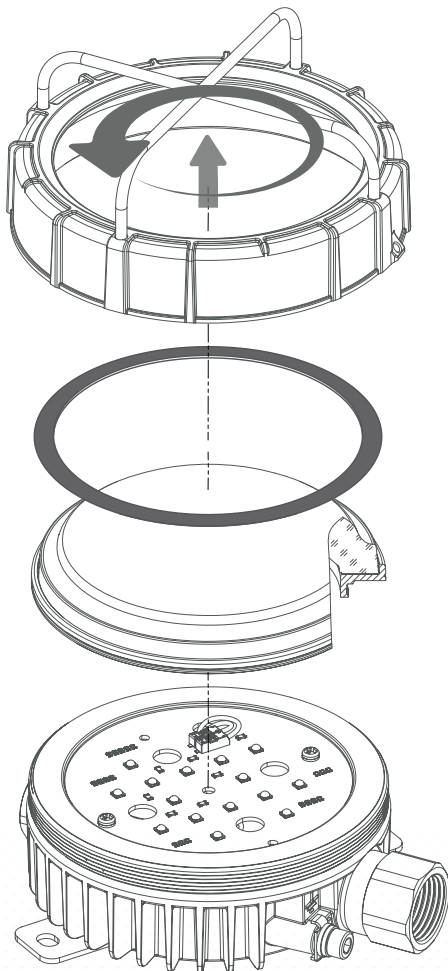

FIG. 2
- for Plafond EX, this is the diffuser-holding ring with an embedded diffuser made of Borosilicate glass, a gasket, and a top housing with a mesh guard (see Fig. 2).